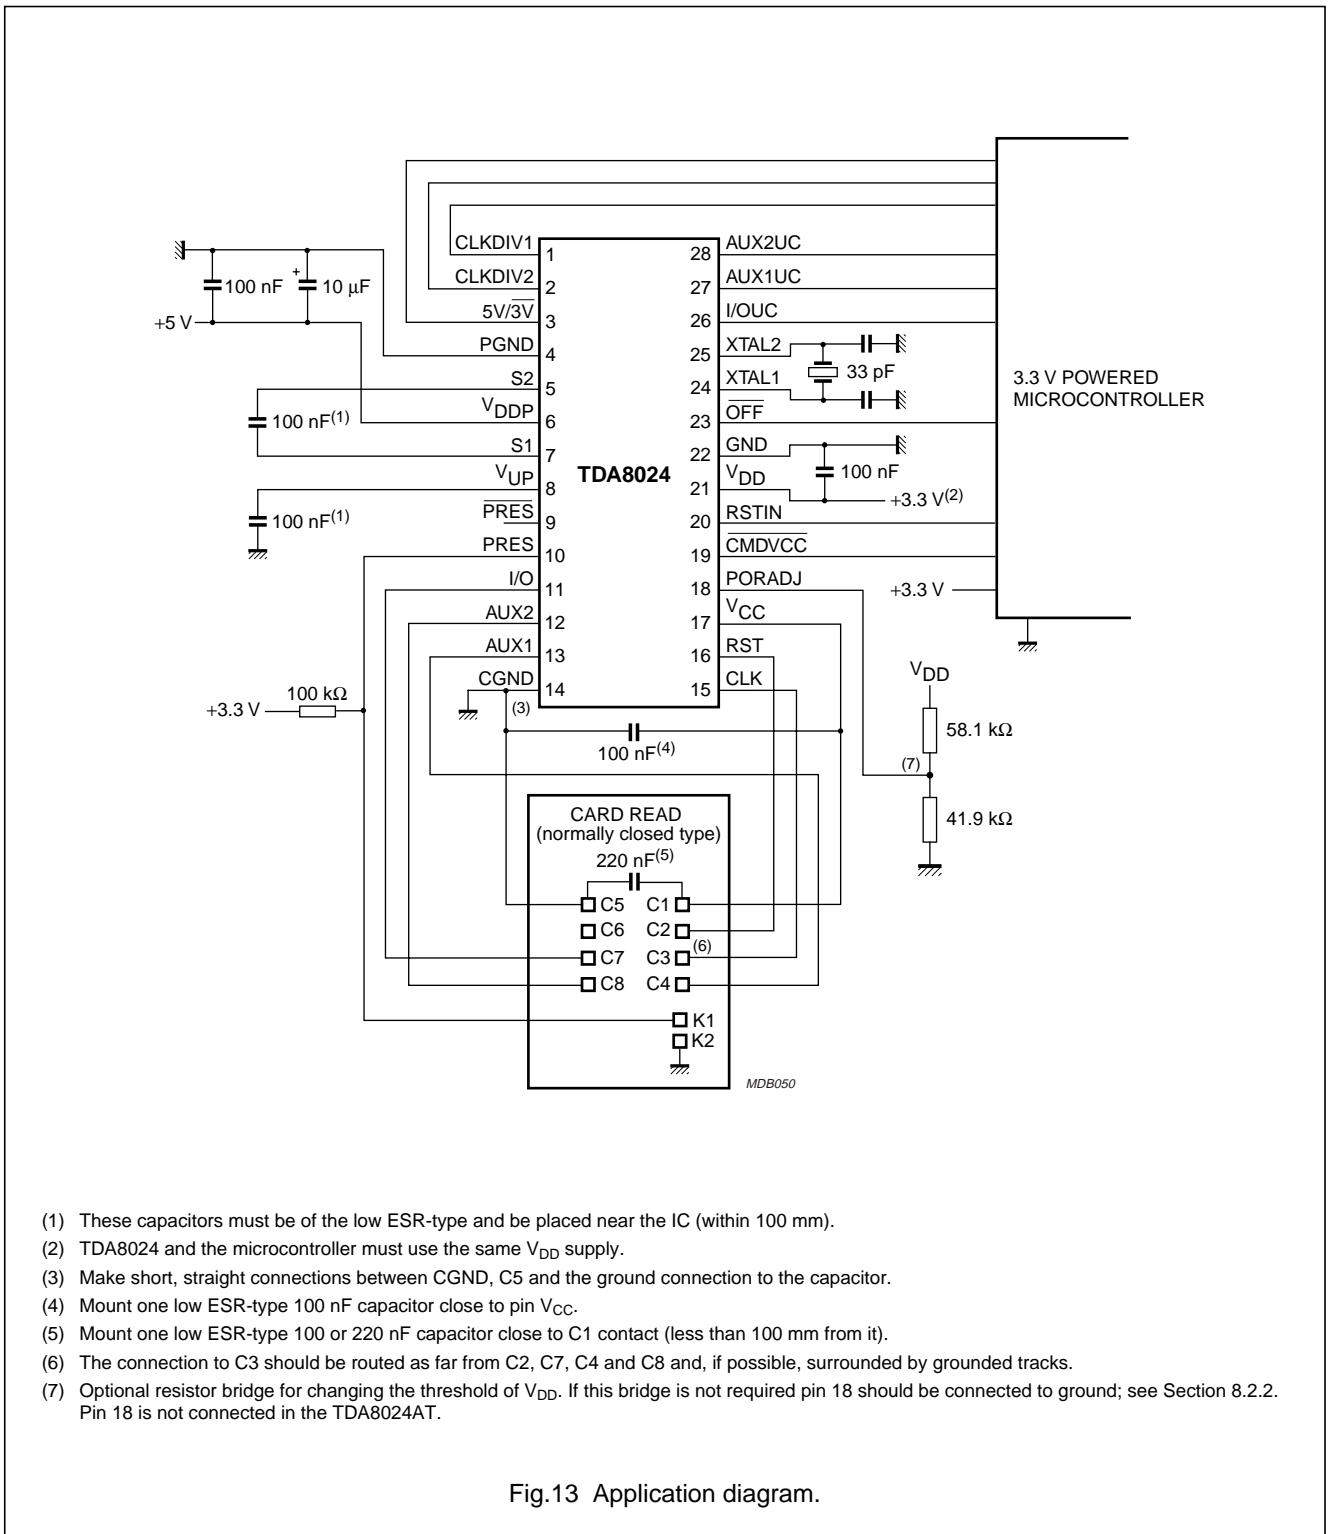

Fig.13 Application diagram.
3. To meet these specifications, pin  $V_{CC}$  should be decoupled to CGND using two ceramic multilayer capacitors of low ESR both with values of 100 nF, or one 100 nF and one 220 nF (see Fig.13).